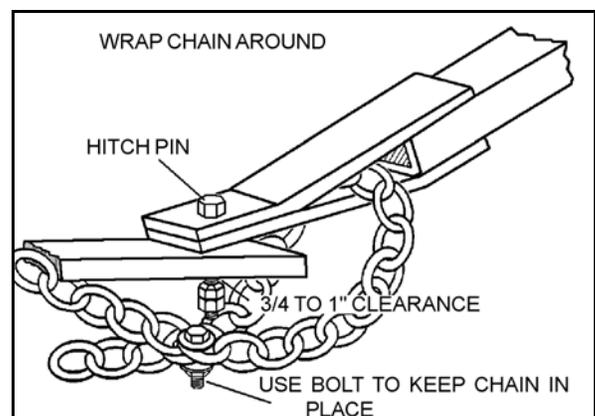

Figure 4.2
2. Position and secure hitch pin and safety chain. Place safety chain through clevis welded to auger hitch tube and bolt together before attaching to tractor. Refer to Figure 4.2.
Important: Use a type of hitch pin (see Figure 4.2) that will not allow auger to separate from towing vehicle.